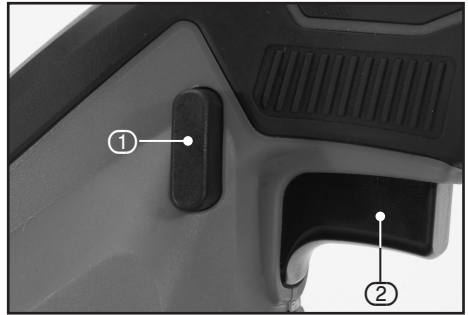

FIG.3
9.1 SWITCH ACTION – FIG.3
- To turn on the tool, press the lock/unlock button ①. The tool goes into standby mode. To start the tool, pull the switch trigger ②. To stop the tool, release the switch trigger, and the tool goes back into standby mode. To turn off the tool, press the lock/unlock button.